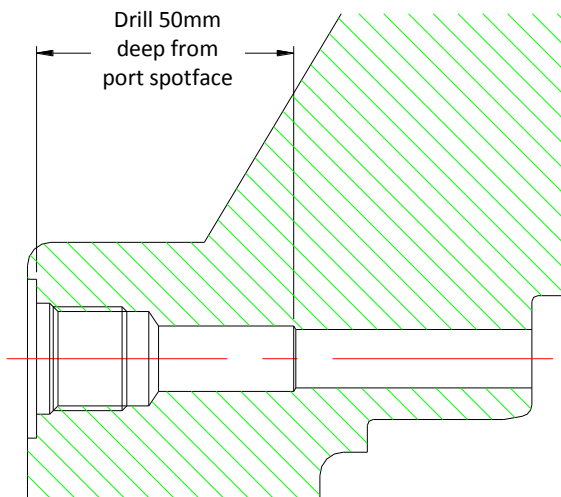

Figure 2
2. Drill the brake housing as shown Figure 2, using a 1/2" drill and the B8099 drill bushing as a guide.